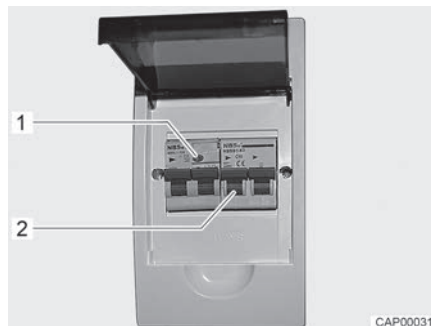

Fig. 75 230 V fuse box with safety cut-out and FI-switch
A fault current protection switch (FI-switch) in the fuse box protects the complete vehicle from fault current (0.03 A). A downstream safety cut-out (10 A) (Fig. 75,2) secures the 230 V power supply.
- When the vehicle is connected to the 230 V power supply, press the test button (Fig. 75,1). The fault current protection switch must trip.